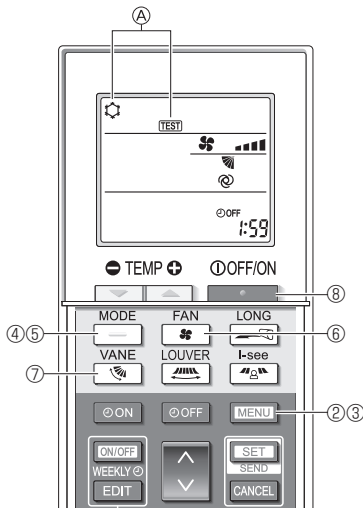

Fig. 7-5
- ① Turn on the power to the unit at least 12 hours before the test run.
- ② Press the [MENU] button for 5 seconds. (Fig. 7-5)
A [TEST] and the current operation mode are displayed. (Fig. 7-5)